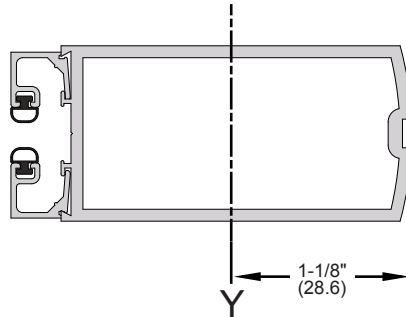

FIG. 1
2. Mark the stile centerlines 1-1/8" (28.6) from the inside edge or outside edge. (Fig. 1)